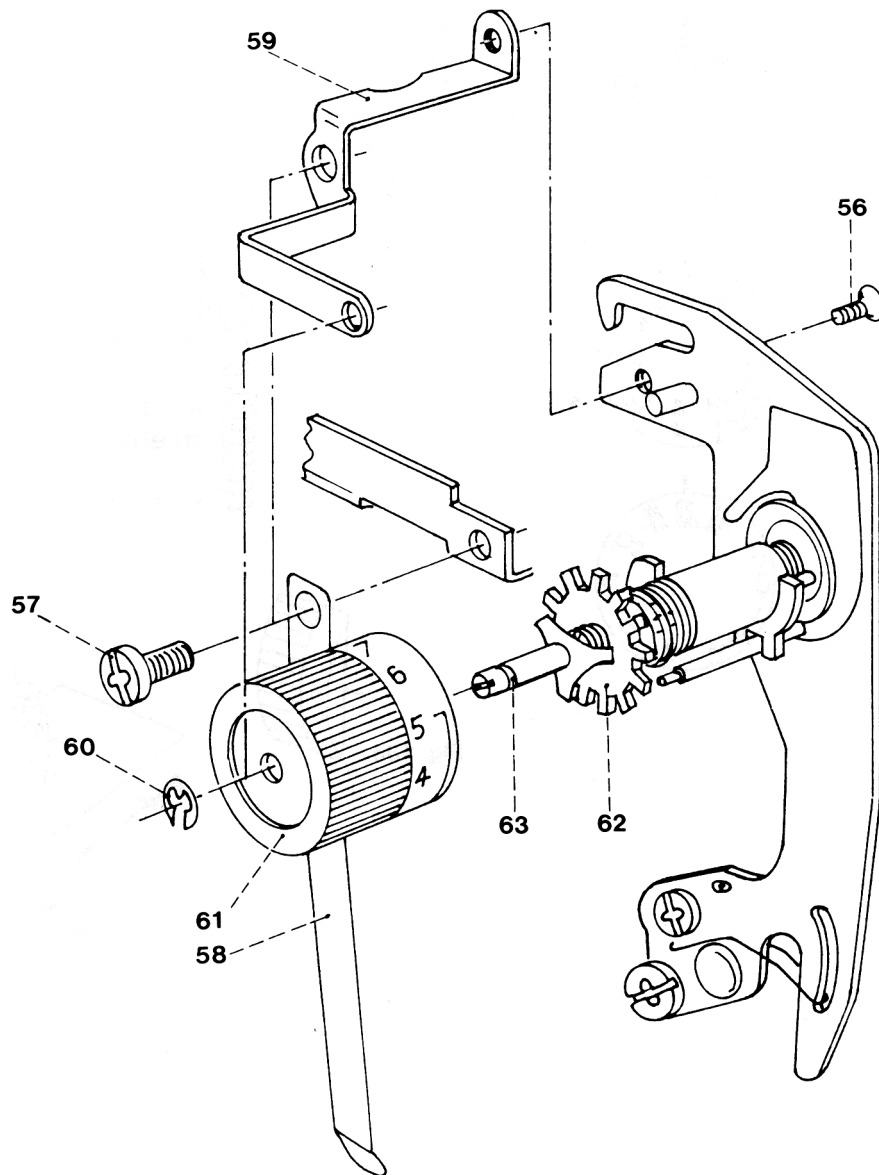

Fig. 18
- Turn out Phillips screw 56 (fig. 18).